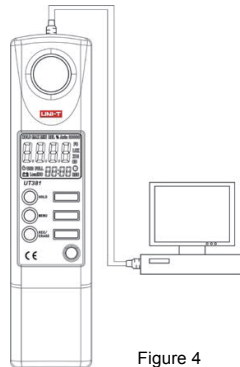

Figure 4
5.USB data transmission function: (only for UT382, See Figure 4)
- The luminometer (UT382) communicates with PC using USB wire and your PC must have a USB port. See Figure 4 for the connection diagram.